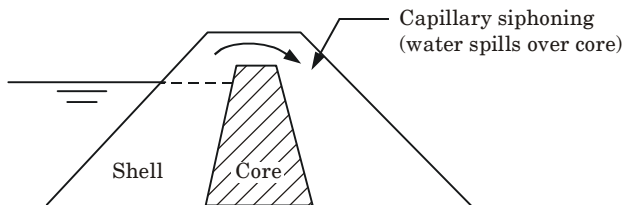

Fig. 2.24.1. Capillary siphoning.
1. In an earth dam with an impervious core, capillary siphoning may occur as shown in Fig. 2.24.1.